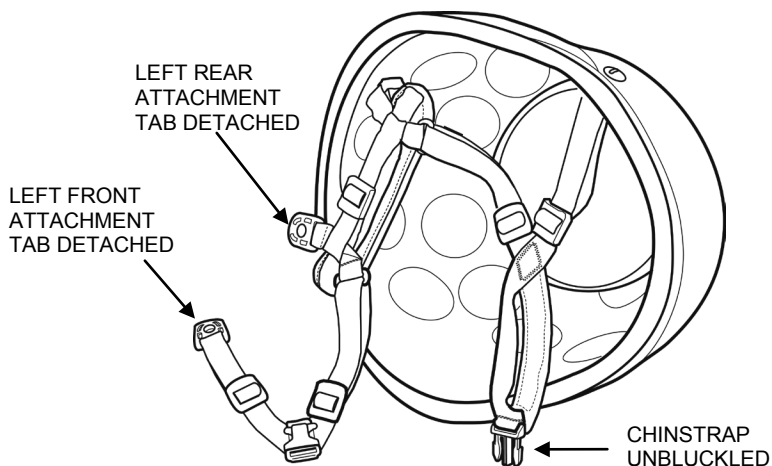

Figure 7. Remove Hardware from Left Front and Left Rear Straps.
1. Unbuckle the chinstrap. Then detach the screws for the left front and left rear attachment tabs to remove two sides of the retention system from the helmet (Figure 7). Retain the two sets of hardware.